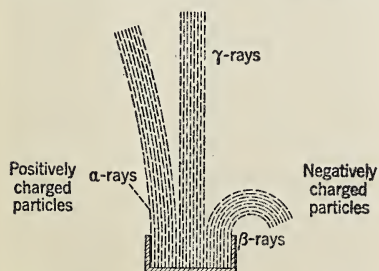

FIG. 788. The effect of a magnet on the various types of radium rays.
3. The γ rays, or *gamma rays*, appear to be of the same nature as X rays. They are more penetrating than either the alpha or the beta rays. The gamma rays are believed to be caused by the impact of beta particles upon surrounding matter. Fig. 788 shows the effect of a powerful magnetic field on the complex Becquerel rays emitted from a small amount of radium. The heavy alpha particles are deflected slightly in one direction; the lighter beta particles are deflected more markedly in the other direction; the gamma rays are not deflected at all. By the use of such